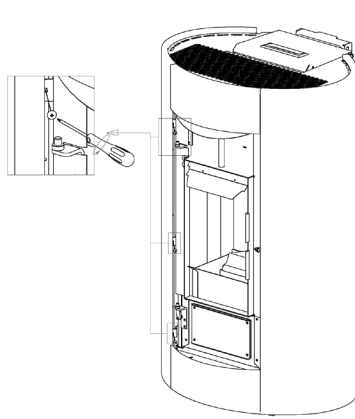
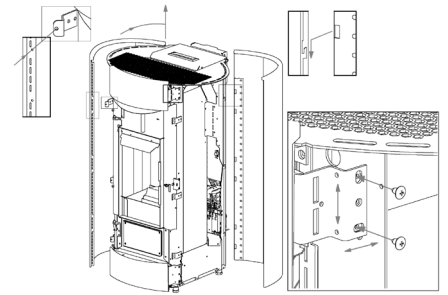

Fig. 60 - Locking teeth
Fig. 61 - Adjustments
- For assembly, proceed in reverse order, adjusting the front faceplates both vertically and horizontally to bring them level with the side panels (see **Fig. 60** and **Fig. 61**).